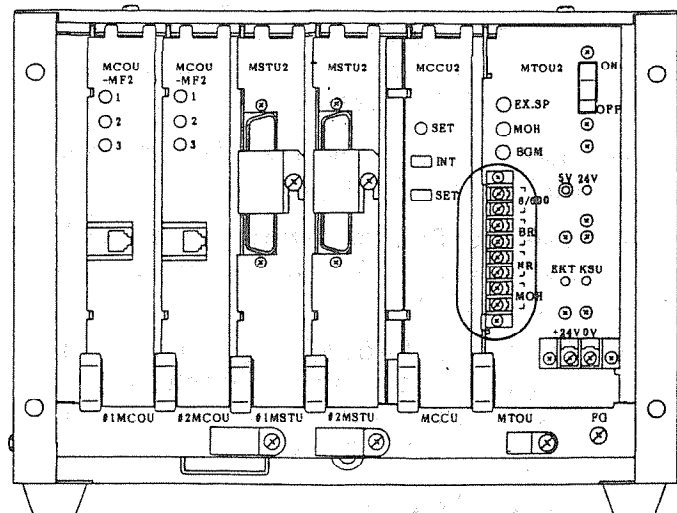

FIGURE 25
11.02 All connections to the equipment (other than EKTs or CO/PBX lines) are made via the barrier strip mounted on the front of the MTOU PCB, as shown in Figure 25.